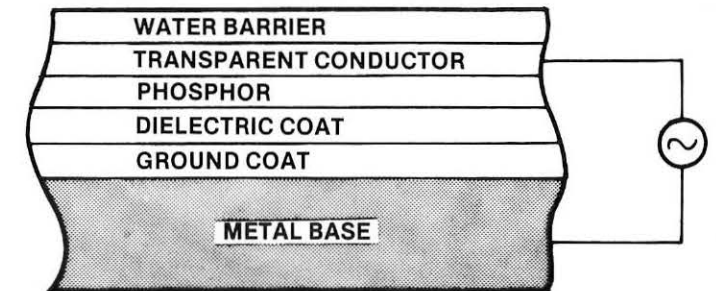

Figure 1. Typical structure of ac EL powder ceramic lamp manufactured by Sylvania.
**1.1.1. Ceramic Lamp:** The typical structure of the ceramic lamp is shown in Figure 1. The metal substrate is a low carbon steel. The first coat consists of a titania and cobalt bearing frit which gives excellent adhesion to the metal. This is followed by a dielectric coat. The third coat is the activated ZnS powder suspended in a special clear glass frit which has a relatively high dielectric constant. This is then followed by a very thin transparent SnO2 electrode. The final coat is a water barrier material to protect the device from moisture.